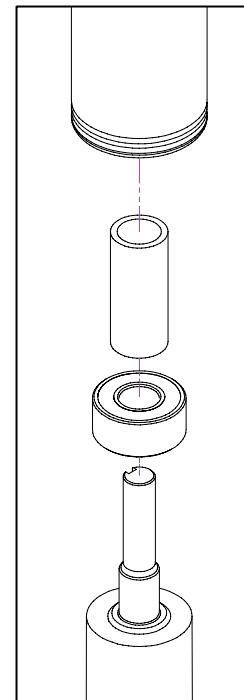

Figure 5
g. Using a small tubular piece, press the new bearing's inner diameter (DO NOT press on outer diameter of bearing) onto the pulley journal until it stops against the journal shoulder. Be sure to secure the pulley while using a press to ensure no damage is done to the press, pulley, or bearing (Figure 5).